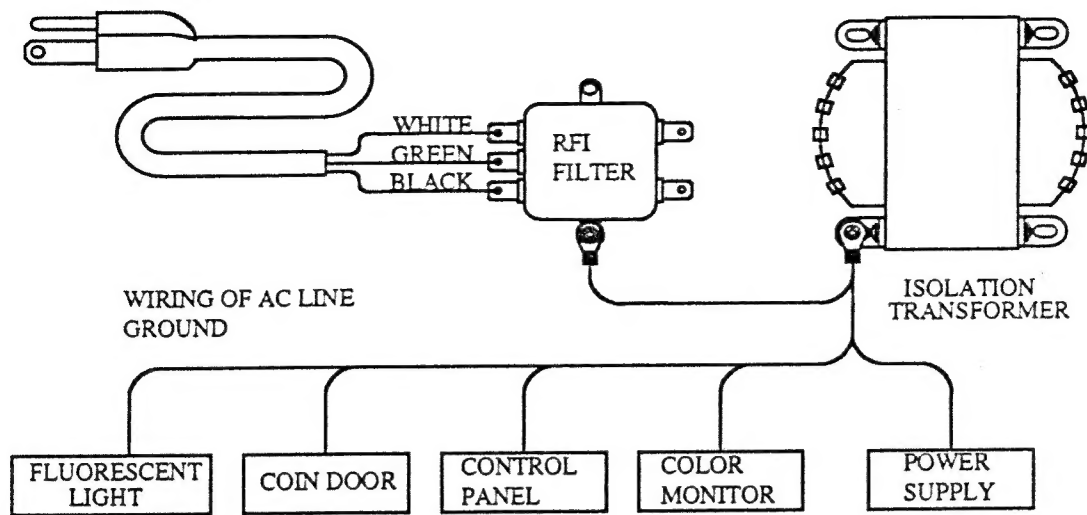

Figure 7
17. Locate the GROUND lead (green) of the 115 volt input power Line (see figure 7). This must be connected to all components of the game system. This is a safety requirement for the players protection. This AC GROUND must be of # 18 AWG wire or larger. (see figure 7 for the proper routing of the wire)